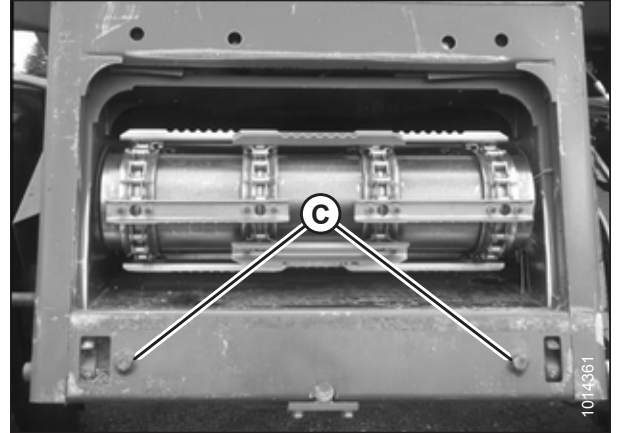

Figure 4.22: AGCO Group Alignment Pins
3. Start the engine and slowly approach the header until the feeder house is directly under float module top cross member (A) and alignment pins (C) (refer to Figure 4.22, page 351) on the feeder house are aligned with holes (B) in the float module frame.